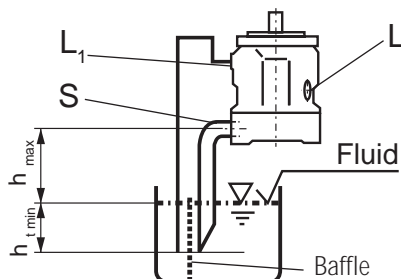

Fig. 2
b) If the minimum fluid level is below the pump mounting face pipe port "L₁" and "S" according to Fig. 2.
Before installation fill the pump housing, keeping it in a horizontal position. For mounting above reservoir see Fig. 2.